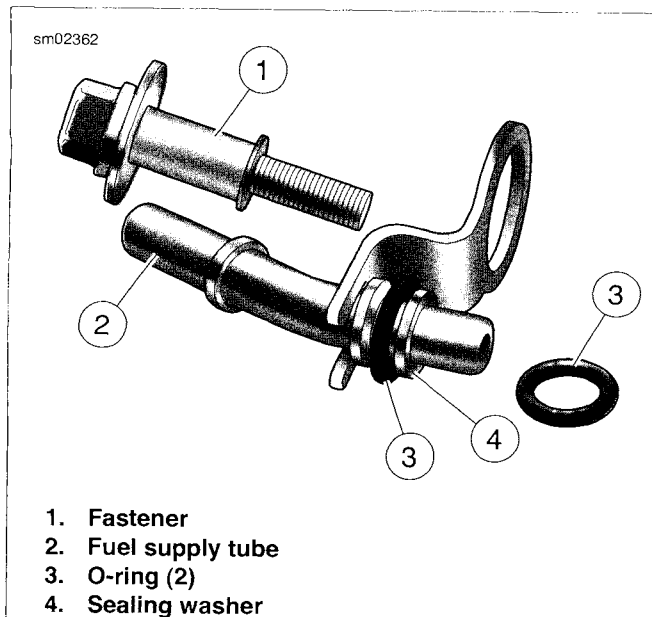

Figure 4-32. Fuel Supply Tube
2. See Figure 4-32. Remove fastener (1) retaining fuel supply tube (2).
3. Pull fuel supply tube from fuel rail. Remove sealing washer (4) and o-ring (3) from fuel supply tube. Remove second o-ring from fuel rail bore. Discard sealing washer and o-rings.
3. With the concave side toward the fuel rail, install spring clip into slot on fuel injector. In the installed position, openings (3) in sides of clip engage lip (2) on fuel rail, while fork (1) at back of clip captures rail tab (4) on fuel injector.
5. See Figure 4-32. Slide **new** o-ring (3) down shorter neck of the fuel supply tube until it contacts the collar. Slide **new** sealing washer (4) down tube until it contacts O-ring. Install second o-ring (3) in fuel rail bore.
6. Push fuel supply tube (2) into fuel rail bore until clamp is seated on round step of fuel rail. Install fastener (1) and tighten to 90-110 **in-lbs** (10.2-12.4 Nm).